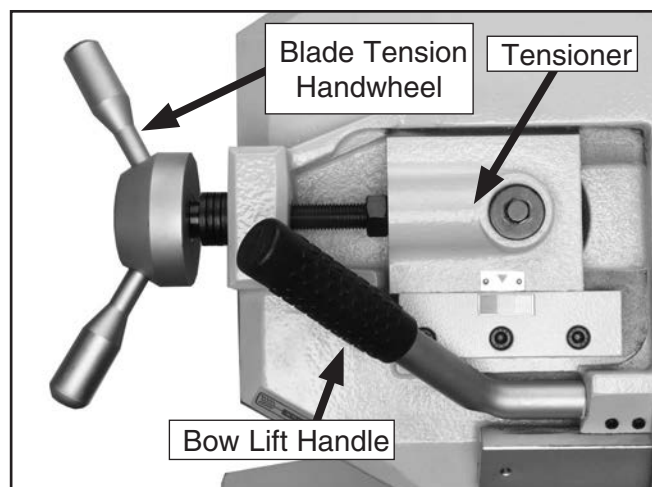

Figure 37. Blade tension handwheel, tensioner, bow lift handle.
1. Locate the blade tension handle (**Figure 37**) and add a few drops of oil on the lead screw.